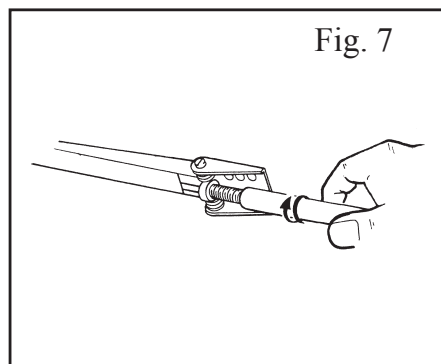

Fig. 7
6. Open the window just enough to allow the thread on the cylinder to catch the thread inside the cylinder housing (3). Then wind the cylinder on until equally much of the cylinders thread is visible on either side of the cylinder housing – see Fig.7.